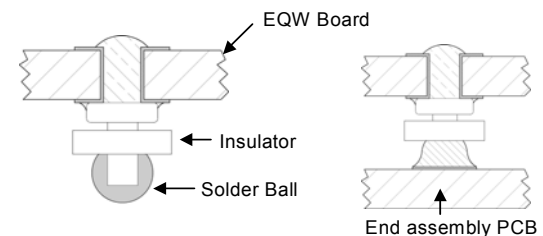

Figure 48. Column Pin Connector Before and After Reflow Soldering .
The surface mountable modules in the EQW family use our newest SMT technology called "Column Pin" (CP) connectors. Figure 48 shows the new CP connector before and after reflow soldering onto the end-board assembly.